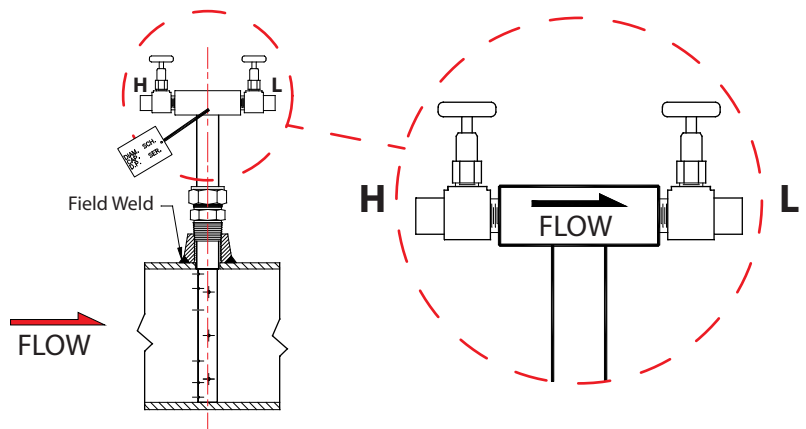

Figure 6: Sensor alignment
9. While holding the AR Ellipse in its fully inserted position, align the arrow located on the sensor head with the direction of flow. See Figure 6.